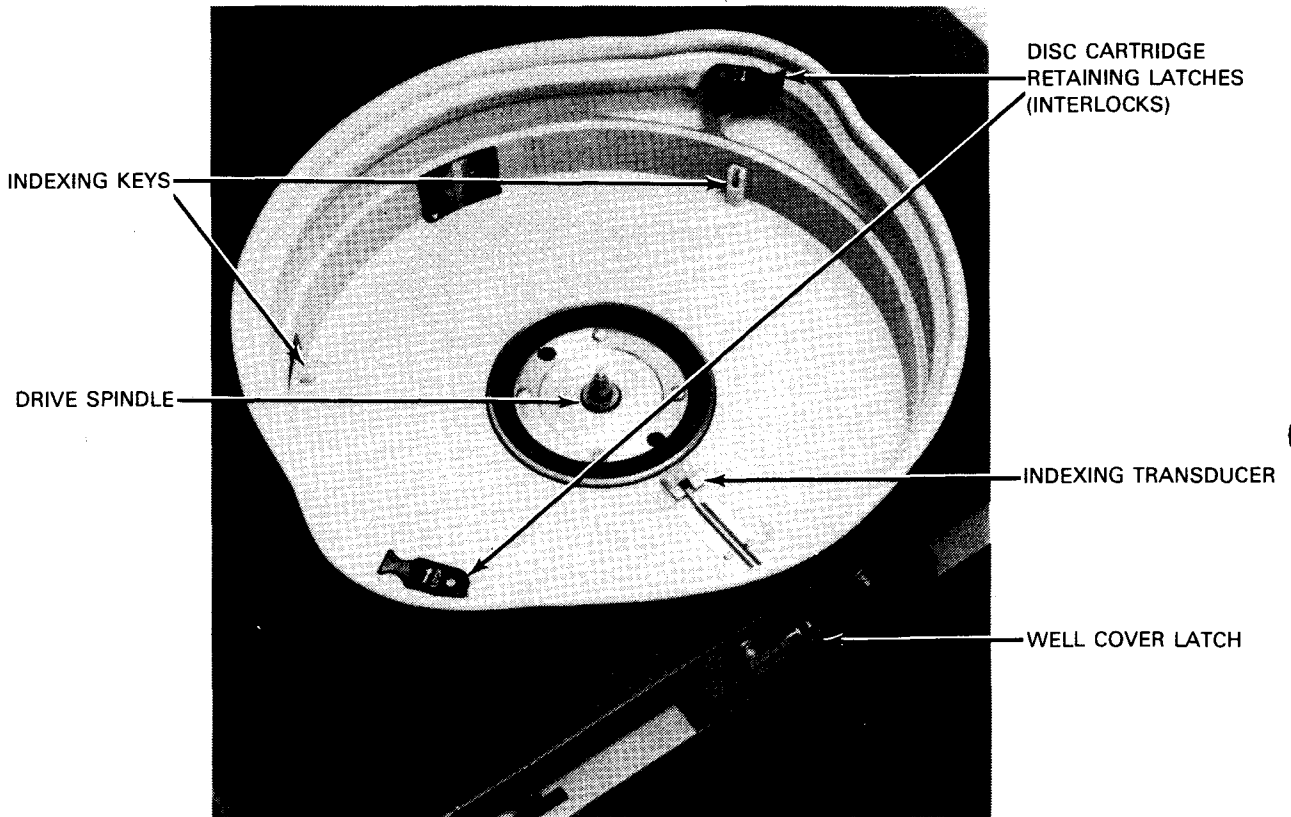

Figure 3—29. 8415 Disc Drive Unit, Disc Drive Well
Power for the 8415 disc subsystem is supplied by the processor and is normally applied and removed from the disc subsystem by the **POWER ON/POWER OFF** switch on the processor operator/maintenance panel (Figure 2—2). For power to be controlled from this panel, however, the **DISC MAIN AC** circuit breaker on the processor power control panel (Figure 2—4) and circuit breakers **CB1**, **CB2**, and **CB3** on the power panels of the disc drive unit (Figure 3—28) must be set to the on (up) position. If more than four disc drive units are included in the subsystem, circuit breakers **CB1**, **CB2**, and **CB3** in the auxiliary ac power supply (Figure 3—19) must be set to the on (up) position and the **LOCAL/REMOTE** switch set to **REMOTE**. The **STOP** switch/indicator on the operator control panel lights when power is applied to the subsystem.
*When power is removed from the subsystem, failure to press the **STOP** switch/indicator (Figure 3—27) before pressing the **ON-OFF** switch/indicator causes power transients that may disturb processor operation.*
1. Press the cover latch on the front of the disc drive unit to release the well cover. Allow the well cover to spring upward; then lift cover to fully expose the disc well (Figure 3—29).
3. Release the bottom cover of cartridge by sliding the locking latch (located in cartridge handle) fully to one side and lifting handle to an upright position (Figure 3—30).
4. Lift cartridge (Figure 3—30) out of bottom cover; then release locking latch.
5. While holding the cartridge handle, carefully align the indexing slots of the disc cartridge (Figure 3—30) to the indexing keys and indexing transducer in the well (Figure 3—29).
6. Carefully lower cartridge onto the drive spindle in the well; making certain that the cartridge fits securely onto the indexing keys (Figure 3—31).